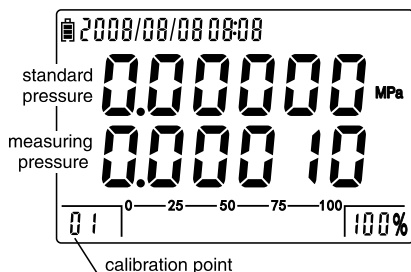
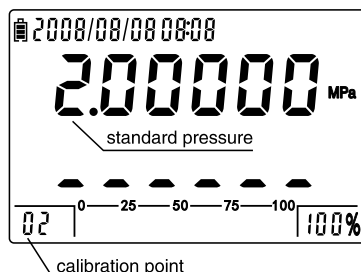
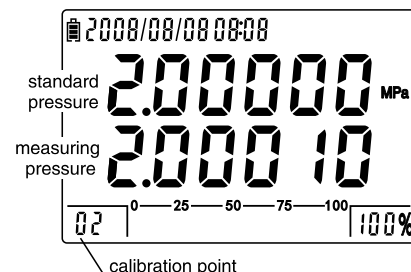

Figure 5-3-2: 1st point calibration
Figure 5-3-3: 2nd point entrance
Figure 5-3-4: 2nd calibration
- (3) The first line flashes to remind the user to input the standard pressure of 1st point. (In this example, it is 0.00000 MPa)
- (4) As figure 5-3-2, screen displays the interface of 1st calibration point. Please supply 0.00000 MPa pressure, and press  to finish the 1st point calibration after it is stable. As figure 5-3-3, switch to the 2nd point calibration interface.
- (5) Under the interface of 2nd calibration point, the first line flashes for new standard pressure. In general, it is the default (In this example, it is 2.00000 MPa), press  for next step.
- (6) As figure 5-3-4, screen displays the 2nd point calibration interface. Please supply 2.00000 MPa pressure and press  to finish the 2nd point calibration after it is stable. The screen switches to the interface as figure 5-3-1 and the calibration is finished.
- (7) Press  to return to the calibration function menu. The calibration is effective if **2P_0** changed to **2P_1**.